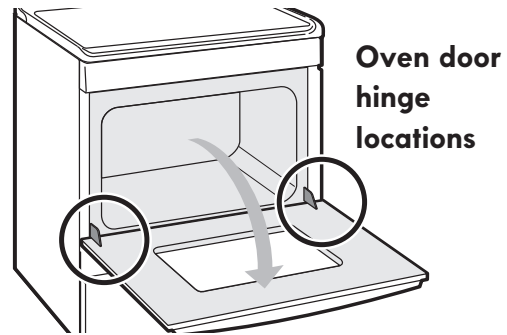

Figure 23: Oven hinge locations
1. Open oven door completely (horizontal with floor - Figure 23).
3. Fully open the oven door (horizontal with floor - Figure 23).